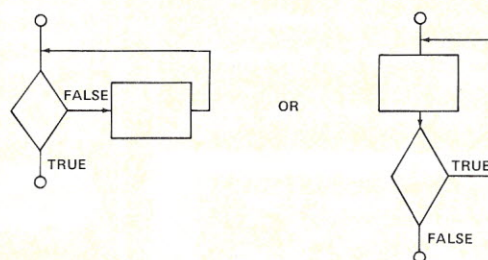

Fig. 4.
**Conditional Sequence.** The conditional sequence allows the logical DO-WHILE construct. It allows several iterations of a process until a condition is met. Control from the sequence is not allowed to go on to the next executable statement until a decision is reached which allows it to continue. The conditional sequence is illustrated in Fig. 4.